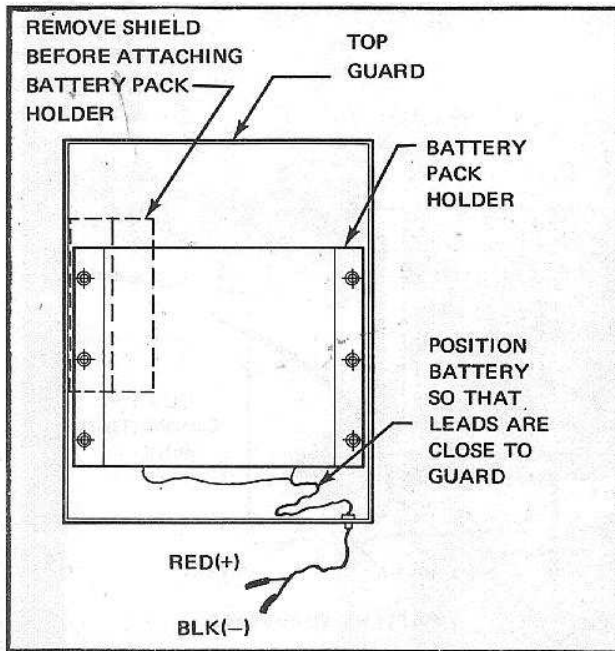

Figure 6-9. BATTERY OPTION KIT INSTALLATION
g. On underside of top guard, remove shield. See Figure 6-9. Install the battery pack on the underneath
side of the top guard, using the battery pack holder and the six machine screws (Figure 6-9). Orient the battery pack so the grommeted battery leads pass through the grommet hole in the edge of the guard.